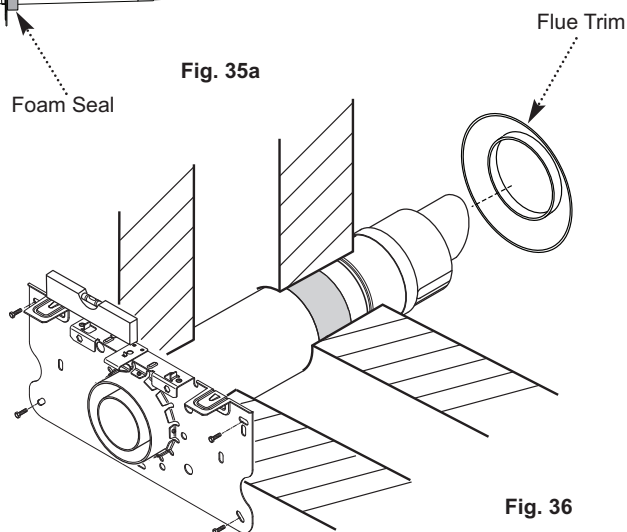

Fig. 36
8. Pass the assembled wall bracket and flue through the hole in the wall. Secure the wall bracket using suitable screws, ensuring that the bracket is level before finally tightening the screws (Fig. 36).